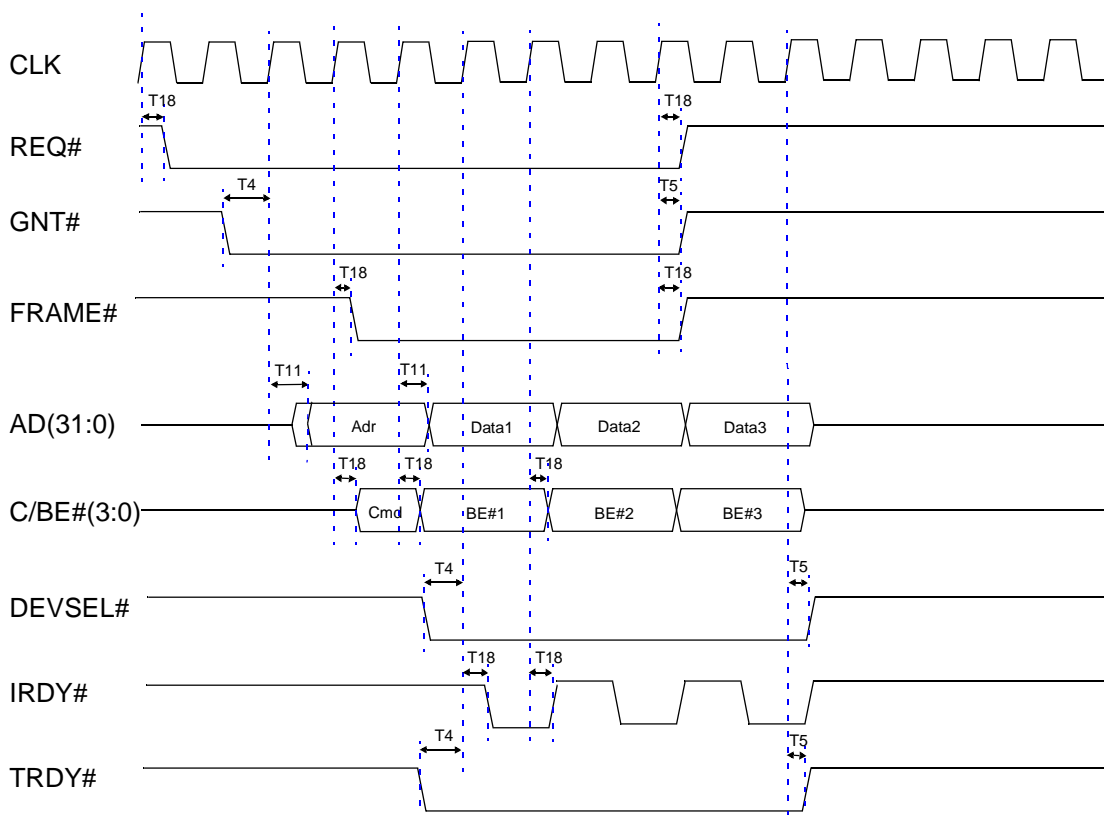

Figure 5-4. PCI Bus Master Operation
- PCI Bus Master Operation, see *Figure 5-4*.